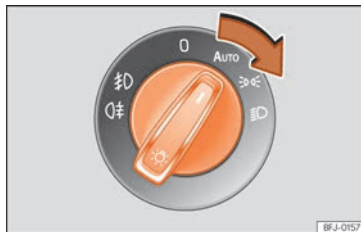

Fig. 114 Dash panel: lights control.
- Turn the switch to the required position »» Fig. 114.